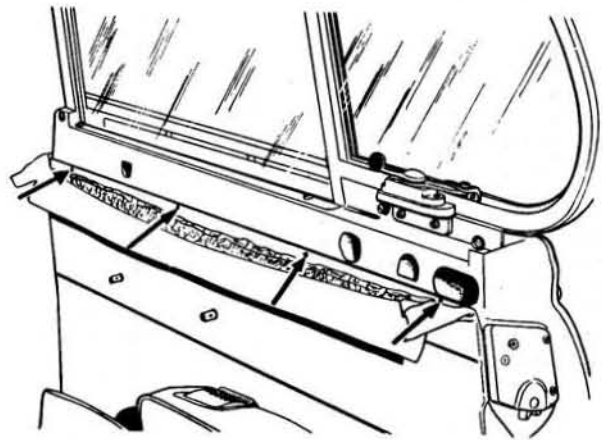

Fig.12.8. Showing the screws securing the top of the door trim casing
- 3 The door casing covering is attached to the door frame at the bottom of the window aperture by adhesive so pull it away carefully. Four screws holding the millboard casing to the door frame will now be uncovered (Fig.12.8) and these must be removed.